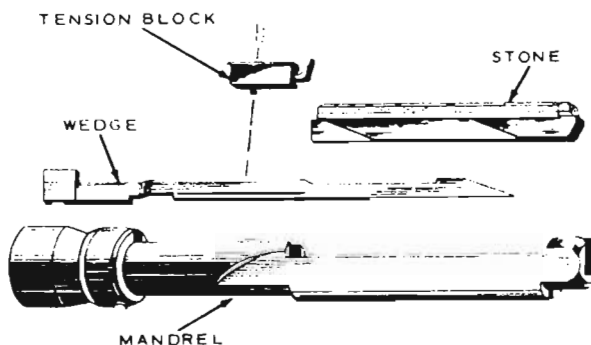

Fig. 94A
9. TYPE RYY and SYR (Fig. 94A)